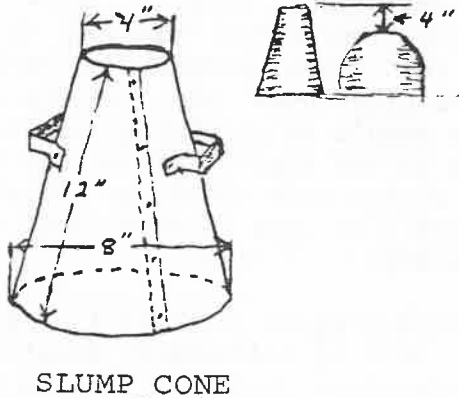

Figure 1
10. Slump: A measure of consistency of freshly mixed concrete, mortar or stucco. A slump cone is used for this test. Upon pouring fresh mix into the cone, immediate removal of the cone should produce a pre-determined amount of slump measured in inches. Refer to Figure 1.
11. Slump Cone: A mold in the shape of a truncated cone with a base diameter of eight inches, top diameter of four inches and height of twelve inches; used to fabricate a specimen of freshly mixed concrete for the slump test. See Figure 1.